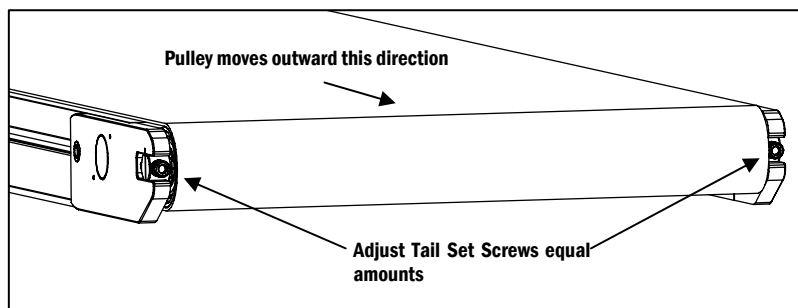

Figure 1
a. Increase the belt tension by adjusting the M8 set screws at the Tail Assembly so the Tail Pulley moves away from the conveyor frame (**Figure 1**). The **screws should be extended the same amount** so the belt tracking is not adversely affected (**refer to Belt Tracking in Section 3.02**).